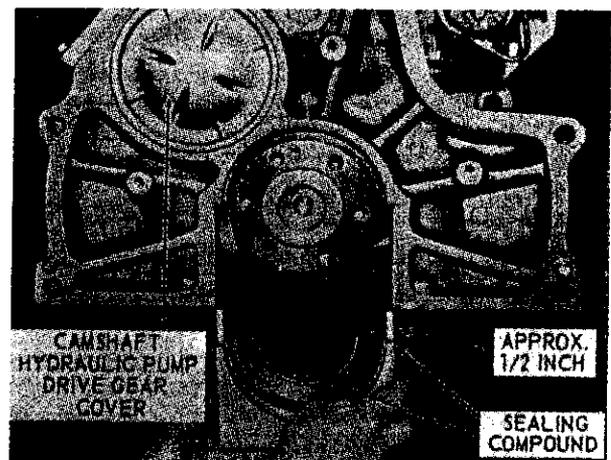

Fig. 92—Installing rear main bearing cap and side seals.
99. To install new rear main bearing cap side seals, remove the cap and proceed as follows: Place side seals in grooves of cap so they extend about 1/2-inch from top surface (see Fig. 92). Apply sealing compound to top face of cap making sure chamfers on edge of cap are covered. Insert and lubricate the bearing liner, then install cap and tighten retaining bolts to torque of 115-125 Ft.-Lbs. Tap side seals into block so that they extend about 0.005-0.15 from block and cap. With rear cap and side